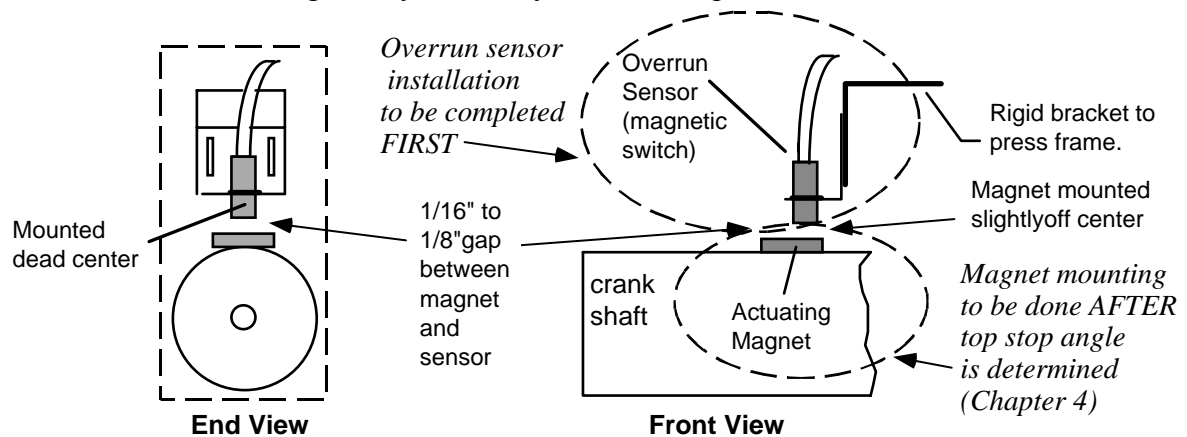

Figure 2-9. Installing overrun limit switch (359° used as an example)
4. Refer to Figure 2-9 as you prepare for installation. You will be mounting the magnetic switch so that it can be wired through the resolver conduit. Select the appropriate crank angle position to mount the magnetic switch, (You have four possible *unzeroed* resolver angle positions, which include 270°, 300°, 330°, and 359° — as explained in "Setting up the Overrun Limit Switch" in Chapter 4.)
9. Install the magnet plastic side up using a non-ferrous metal screw (see Figure 2-9). It is important not to use a ferrous screw because it could cause false signals. A brass screw (6-32) is supplied. Use a No. 36 drill and a 6-32 tap.